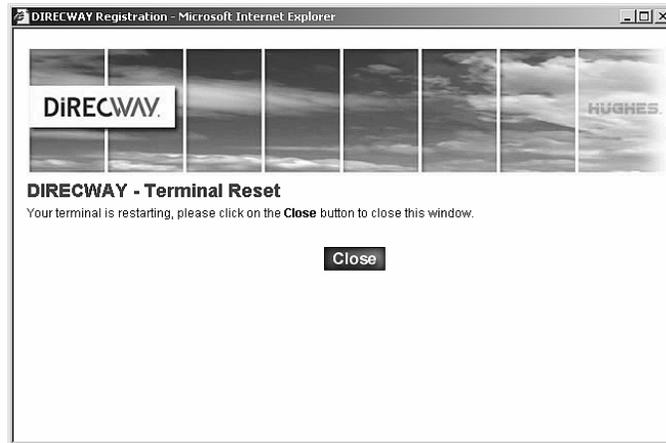

Figure 39: Completing the commissioning process
36. Click **Close** on the Terminal Reset screen shown in Figure 39 to close the screen.